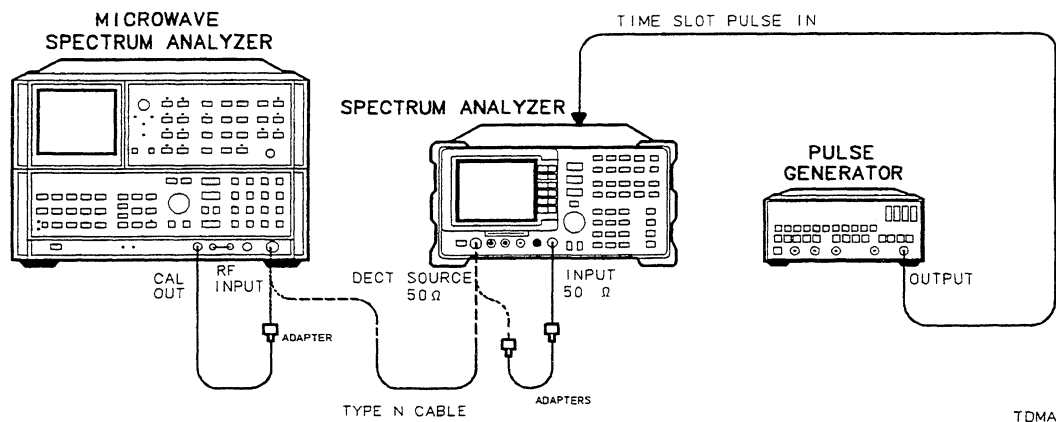

Figure 9-8. TDMA Switch On/Off Ratio Test Setup
2. Connect the 23 cm BNC cable between the DECT SOURCE 50 Ω and INPUT 50 Ω connectors on the spectrum analyzer, using the N(m) to BNC(f) adapters. Refer to Figure 9-8.
10. Connect the Type N cable from the spectrum analyzer DECT SOURCE 50 Ω output to the microwave spectrum analyzer RF INPUT. Also connect the BNC cable from the spectrum analyzer TIME SLOT PULSE IN input to the pulse generator output. Refer to Figure 9-8.